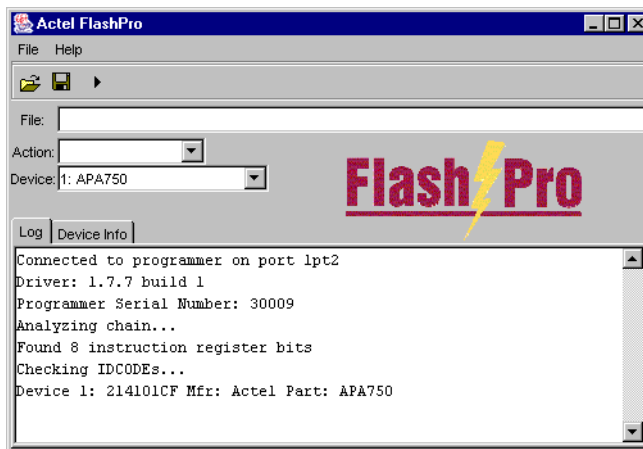

Figure 2-14. FlashPro: Analyzing Chain
1. From the **File** menu, click *Analyze Chain*. Chain details appear in the Log window, as shown in Figure 2-14. If you encounter any failures, please refer to “Error Messages & Troubleshooting Tips” on page 89 for more information.